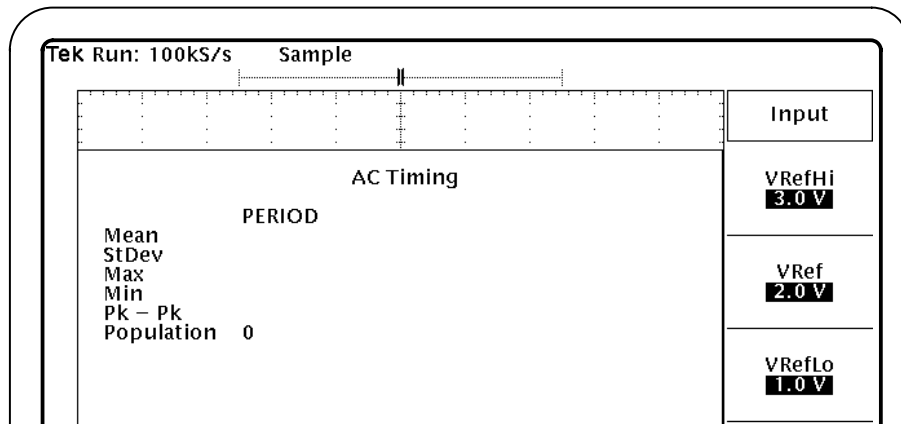

Figure 27: Input menu voltage reference levels
4. Press Setup AC Timing (main) → Input (side). See Figure 27.